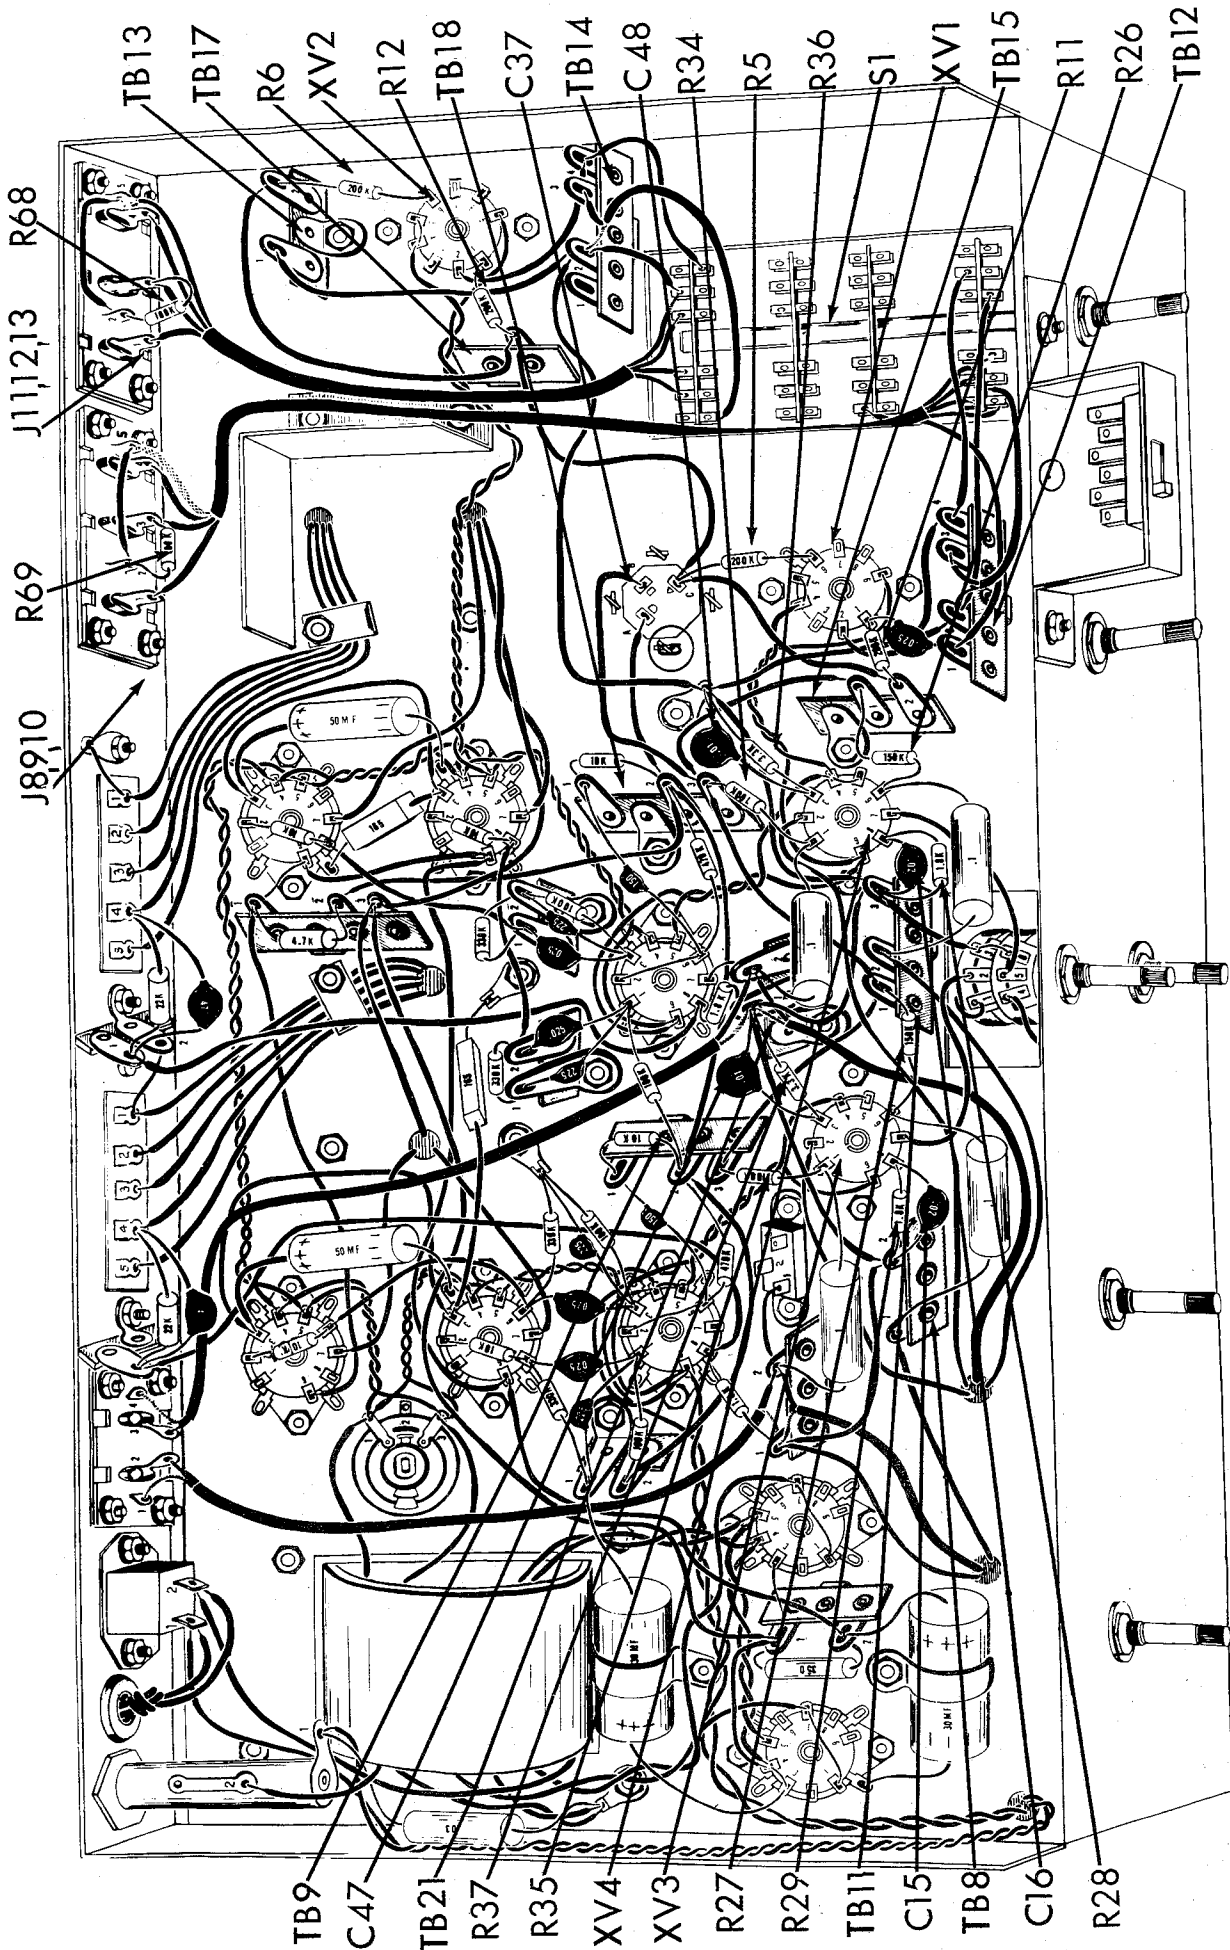

Fig. 10
1. (✓) Fig. 10. Cut all leads on two 100KΩ (brown, black, yellow, silver) resistors, R34 and R35, to 1/2". Connect R34 from XV4-1 (S2) to TB18-3 (S4). Connect R35 from XV3-1 (S2) to TB9-3 (S2).
2. (✓) Fig. 10. Cut all leads on two 150KΩ (brown, green, yellow, silver) resistors, R26 and R27, to 1/2". Connect R26 from XV4-6 (S2) to TB15-1 (S2). Connect R27 from XV3-6 (S2) to TB11-1 (S3).
3. (✓) Fig. 10. Cut all leads on two 1.8KΩ (brown, grey, red, silver) 10% resistors, R28 and R29, to 1/2". Connect R28 from XV4-8 (C) to TB11-3 (C). Connect R29 from XV3-8 (C) to TB8-2 (C).
4. (✓) Fig. 10. Cut all leads on two .02 mfd (20K or 20,000 mmf) disc capacitors, C15 and C16, to 1/2". Connect C15 from XV3-8 (S2) to TB8-2 (S4). Connect C16 from XV4-8 (S2) to TB11-3 (S5).
5. (✓) Fig. 10. Cut all leads on two 3.3KΩ (orange, orange, red, silver) resistors, R36 and R37, to 5/8". Connect R36 from XV4-3 (C) to ground lug "G" (C). Connect R37 from XV3-3 (C) to TB21-1 (C).
6. (✓) Fig. 10. Cut all leads on two .01 mfd (10K or 10,000 mmf) disc capacitors, C47 and C48, to 3/4". Connect C47 from XV3-3 (S2) to TB21-1 (C). Connect C48 from XV4-3 (S2) to ground lug "G" (C).
7. (✓) Fig. 10. Connect a 4" piece of orange wire from C37-C (C) to TB15-2 (C).
8. (✓) Fig. 10. Connect a 3 1/2" piece of black wire from ground lug "G" (C) to TB12-2 (C).
9. (✓) Fig. 10. Connect a 4" piece of orange wire from TB17 (C) to C37-C (C).
10. (✓) Fig. 10. Connect a 4 1/2" piece of black wire from ground lug "G" (C) to TB14-2 (C).
11. (✓) Fig. 10. Connect a 4" piece of orange wire from TB17 (C) to TB13-2 (C).
12. (✓) Fig. 10. Connect a 3 1/2" piece of black wire from TB14-2 (C) to TB13-1 (C).
13. (✓) Fig. 10. Connect the black lead from S1A-10 to TB12-2 (C).
14. (✓) Fig. 10. Connect the brown lead from S1D-7 to TB12-1 (C).
15. (✓) Fig. 10. Connect the shield from the single conductor shielded cable
16. (✓) Fig. 10. Connect the grey lead from S1B-11 to TB12-4 (C)
17. (✓) Fig. 10. Connect the grey lead from S1G-12 to TB14-4 (C).
18. (✓) Fig. 10. Connect the shield from the single conductor shielded cable (from S1G-6) to TB14-2 (C). Connect the inner conductor to TB14-3 (C).
19. (✓) Fig. 10. Connect the black lead from S1H-11 to TB14-2 (C).
20. (✓) Fig. 10. Connect a 1 1/2" piece of bare wire covered with a 1/4" piece of spaghetti from J8, 9, 10-2 (C) to J8, 9, 10-5 (C).
21. (✓) Fig. 10. Connect a 1 1/2" piece of bare wire covered with a 1/4" piece of spaghetti from J11, 12, 13-2 (C) to J11, 12, 13-5 (C).
22. (✓) Fig. 10. Cut all leads on two 100KΩ (brown, black, yellow, silver) resistors, R68 and R69, to 1/2". Connect R68 from J11, 12, 13-2 (S2) to J11, 12, 13-3 (C). Connect R69 from J8, 9, 10-2 (S2) to J8, 9, 10-3 (C).
23. (✓) Fig. 10. Run the three conductor shielded cable from switch wafer S1B along the chassis as shown. Connect the shield to J8, 9, 10-5 (S2); connect the brown lead to J8, 9, 10-1 (S1); connect the red lead to J8, 9, 10-3 (S2); and connect the orange lead to J8, 9, 10-4 (S1).
24. (✓) Fig. 10. Run the three conductor shielded cable from switch wafer S1H along the chassis as shown. Connect the shield to J11, 12, 13-5 (S2); connect the brown lead to J11, 12, 13-1 (S1); connect the red lead to J11, 12, 13-3 (S2); and connect the orange lead to J11, 12, 13-4 (S1).
25. (✓) Fig. 10. Connect a 2" piece of grey wire from TB12-4 (C) to XV1-2 (C).
26. (✓) Fig. 10. Connect a 3" piece of grey wire from TB14-4 (C) to XV2-2 (C).
27. (✓) Fig. 10. Cut all leads on four 200KΩ (red, black, yellow, gold) 5% resistors, R5, R6, R11 and R12 to 5/8". Connect R5 from C37-C (C) to XV1-6 (C). Connect R6 from TB13-2 (S2) to XV2-6 (C). Connect R11 from TB15-2 (S2) to XV1-1 (C). Connect R12 from TB17 (S3) to XV2-1 (C).